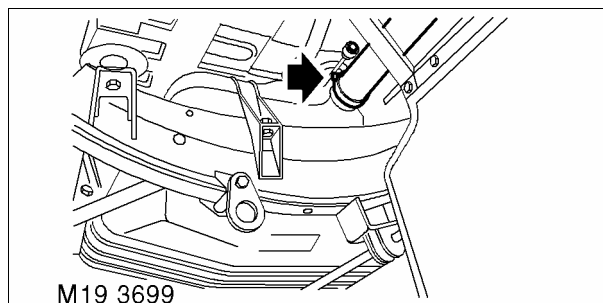

Fig. 4
- 8 Disconnect fuel tank filler hose from fuel tank filler neck. Fig. 4.